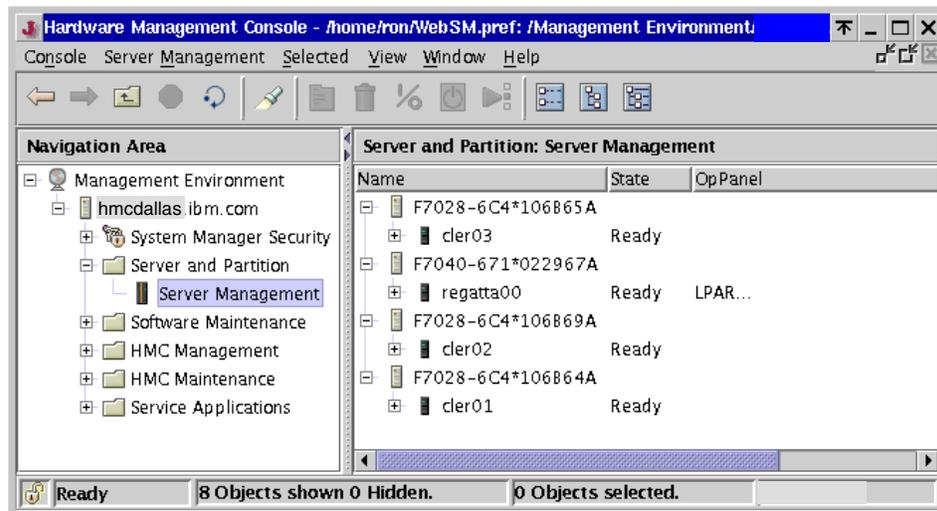

Figure 4-12 Server Management (four managed systems)⁷
- ▶ Figure 4-12 on page 142 shows four frames in the Content area. The first frame contains a pSeries 670, whereas the other frames contain a pSeries 630 Model 6C4 each.
⁷ The frame icon descriptions start with F, not from MT-MDL, in Figure 4-12, since those systems are installed with V3.0 system firmware.